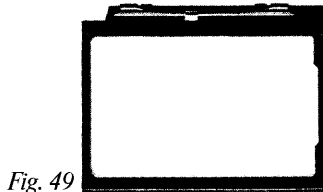

Fig. 49
- *Focusing screen with central microprism circle and plain matt surround, brightened by a fresnel lens (fig. 49). This screen is very suitable for rapid action photography where a minimum of distraction is required.*